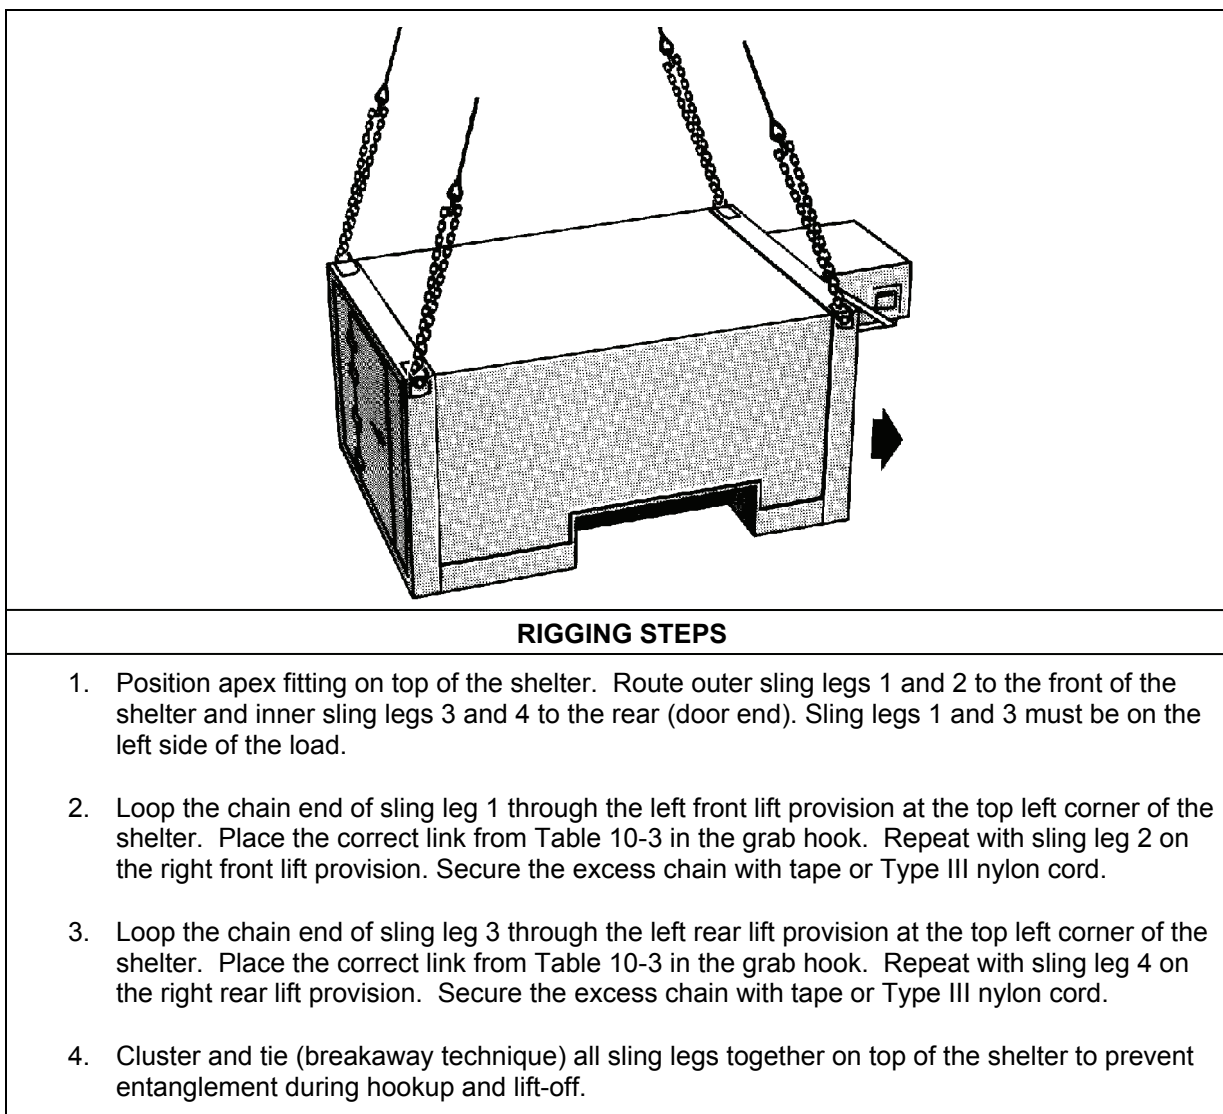

Figure 10-3. Lightweight Multipurpose Shelter
- **Rigging.** Rig the load according to the steps in Figure 10-3.